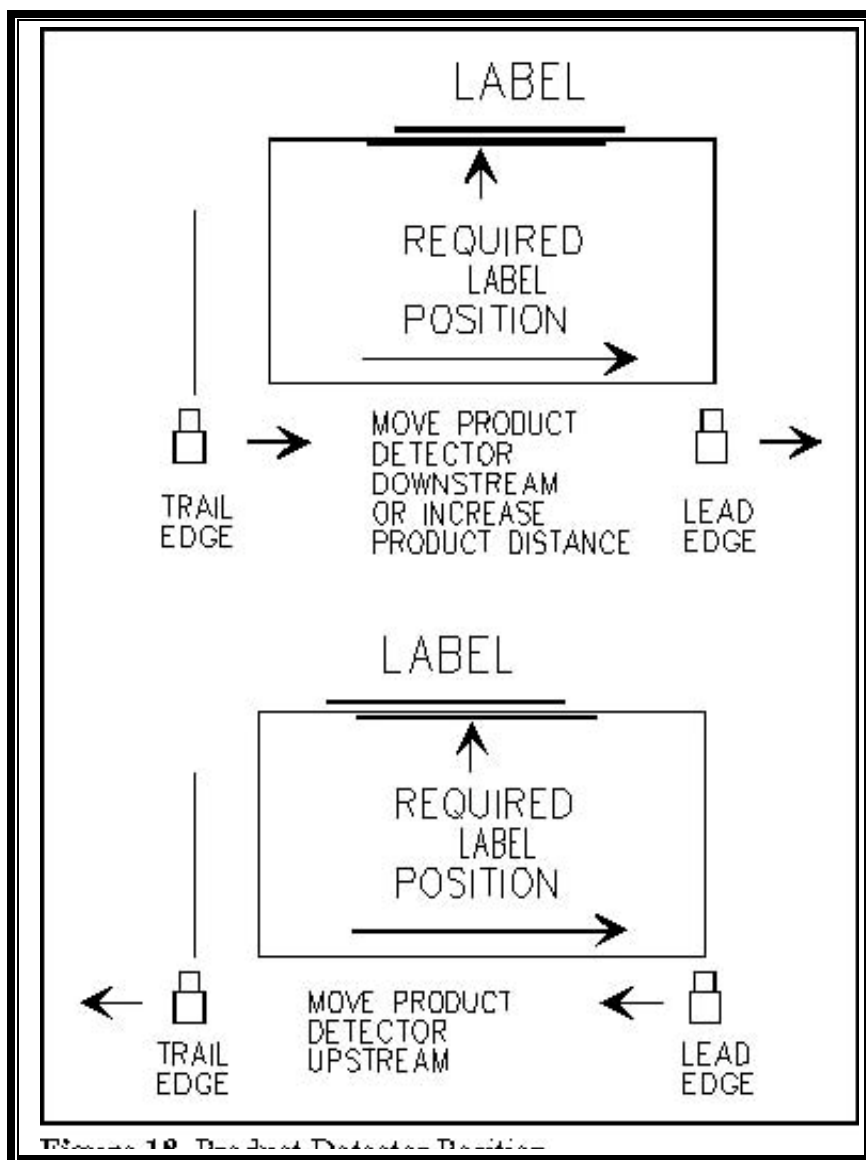

Figure 48 Product Detector Position
4. If the label was applied too close the leading edge of the product (early), either reposition the product detector further downstream or increase the LABEL ON PRODUCT POSITION setting. Refer to Figure 48.
8. If the label was applied too close the leading edge of the product (early), either reposition the product detector further downstream or increase the LABEL ON PRODUCT POSITION setting. Refer to Figure 48.
If the label was applied too far from the leading edge of the product (late), reposition the product detector further upstream. Refer to Figure 48.